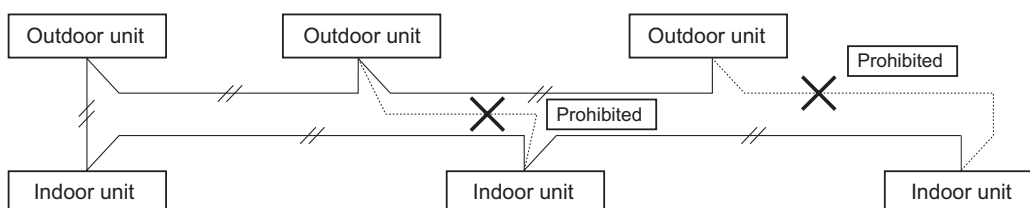

Fig. 1-1
- (1) When linking the outdoor units in a network, disconnect the terminal extended from the short plug (CN003, 2P Black, location: right bottom on the outdoor main control PCB) from all outdoor units except any one of the outdoor units. (When shipping: In shorted condition.)
- (2) Do not install the inter-unit control wiring in a way that forms a loop. (Fig. 1-1)